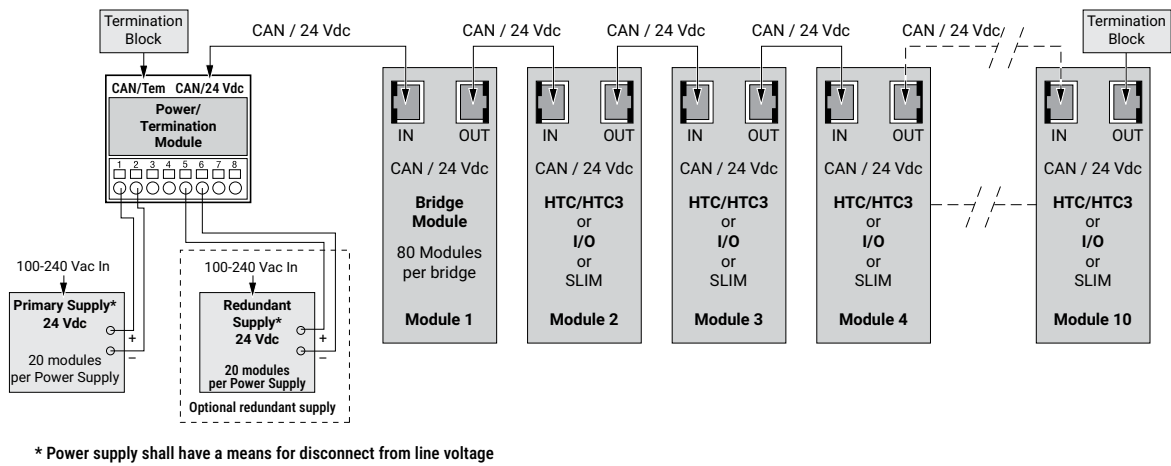

Figure 8: CAN network connections for up to 10 modules
- Topology: Daisy chain, terminate with TTC, CAN termination block (see Figure 8).